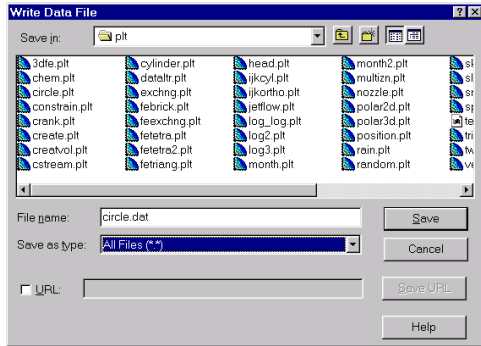

Figure 6-8. The Write Data File dialog in Motif (top) and Windows (bottom).
6. Click OK to call up the Write Data File dialog shown in Figure 6-8.